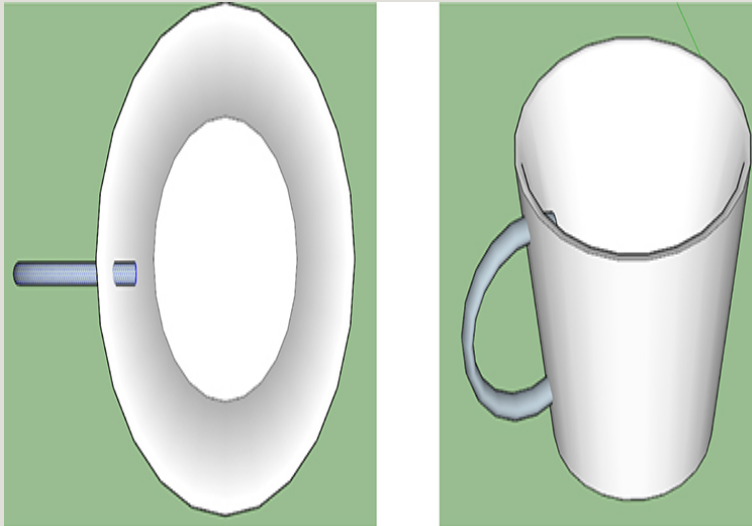

Figure 3-87 Position the handle on the mug.
6. Position the handle on the mug (Figure 3-87). You'll probably need to switch between